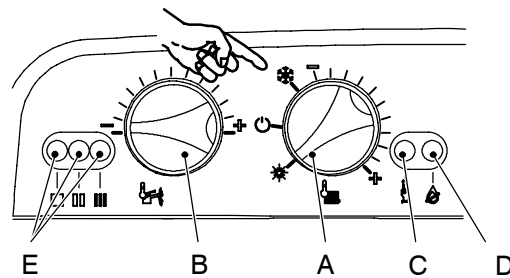
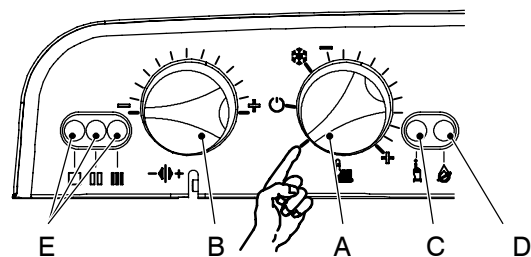

Fig. 42
Fig. 43
- 4 Turn the boiler ON positioning the function selector knob A as indicated in Fig. 42 (M96.24SM/..., M96.28SM/..., M96.32SM/...) or Fig. 43 (M96.28SR/...). and ensure that the timer selector switch and room thermostat, if fitted, are set to "heat demand".